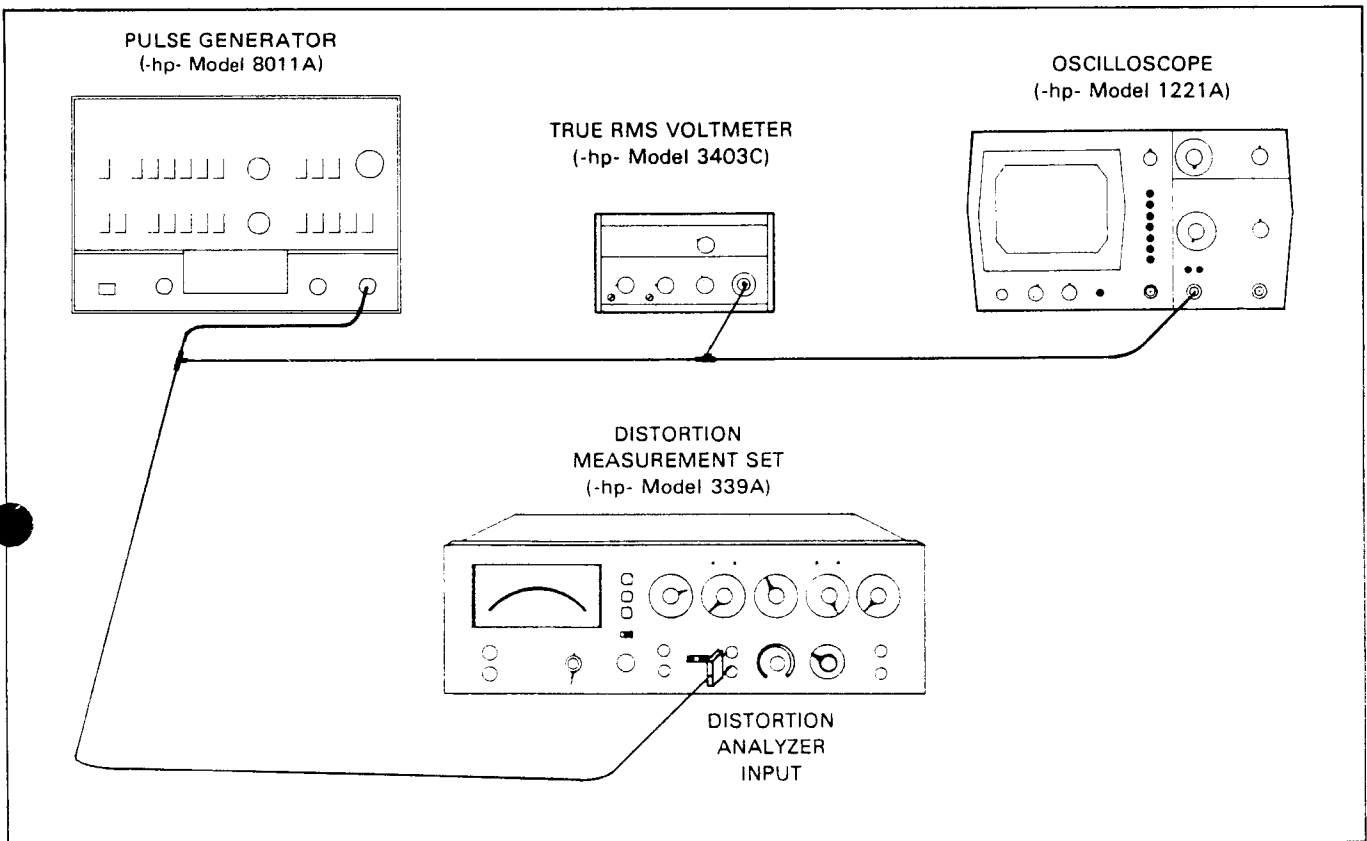

Figure 4-3. RMS Accuracy Test.
b. Connect the equipment as shown in Figure 4-3.
- b. Connect the equipment as shown in Figure 4-3.